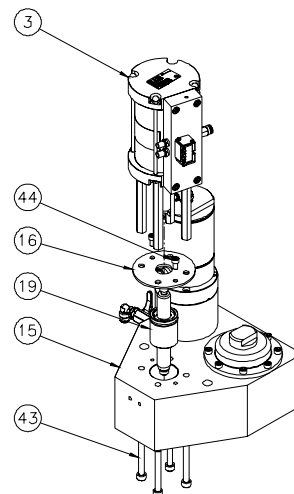

Figure 4-5. Top Fluid Section
9. Reassemble the Top Fluid section, referring to Figure 4-5.
- a. Apply Superlube (57) to the Seal Cartridge Assembly (19) O-Ring.
**i** The O-Ring on the Seal Cartridge must be face-up, toward the air cylinder (3).
- b. Tighten the M6 x 12 SHCS (44) to 12 N\*m (106 in\*lbs).
- c. Tighten the M8 x 70 SHCS (43) to 29 N\*m (255 in\*lbs).